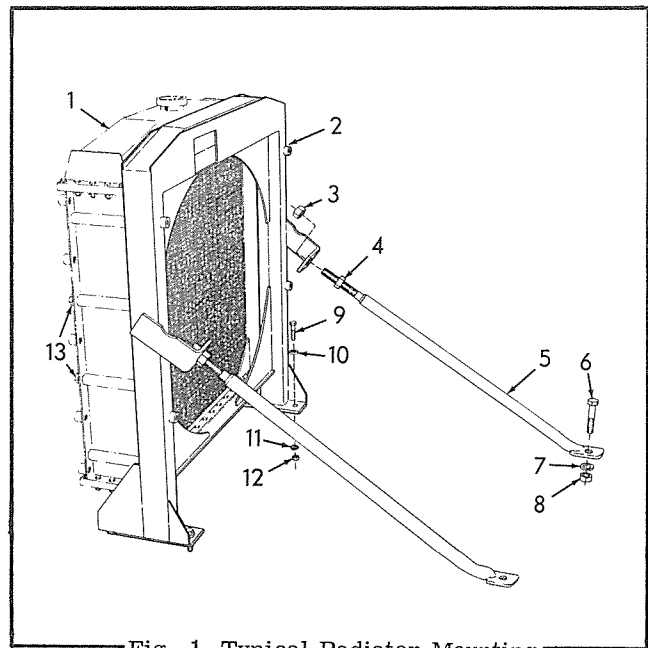

Fig. 1—Typical Radiator Mounting
On track-type tractors, the radiator is mounted on a radiator support, Fig. 1, which is bolted to the tractor main frame.
1. TRACK-TYPE TRACTORS (Fig. 1)
- d. The radiator (1) and radiator support (2) may now be removed as an assembly by removing fan guard (if so equipped), support mounting capscrews (9), and capscrews (6); or the radiator may be removed from the support by removing capscrews (13) and lockwashers.
- f. Install radiator on radiator support and secure with capscrews (13) and lockwashers.